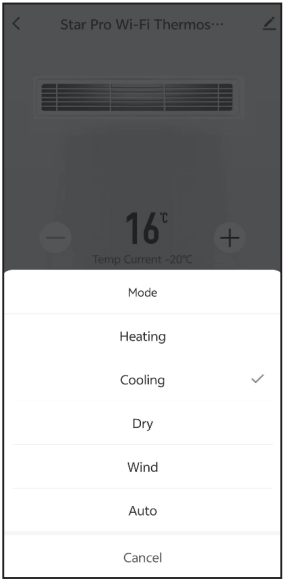

Figure8 Mode
- 3) Click “ Mode ” to select the mode of the air conditioner, as shown in Figure 8.